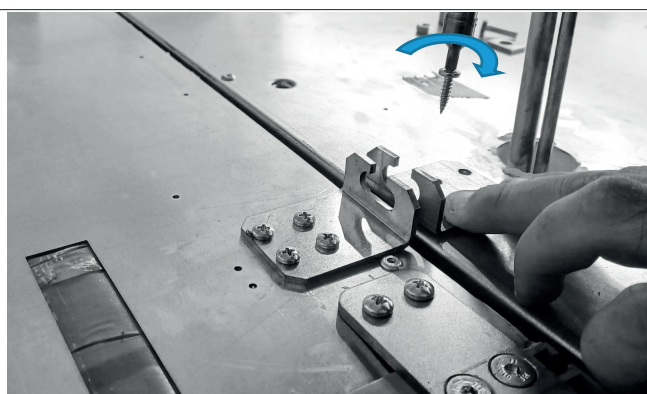
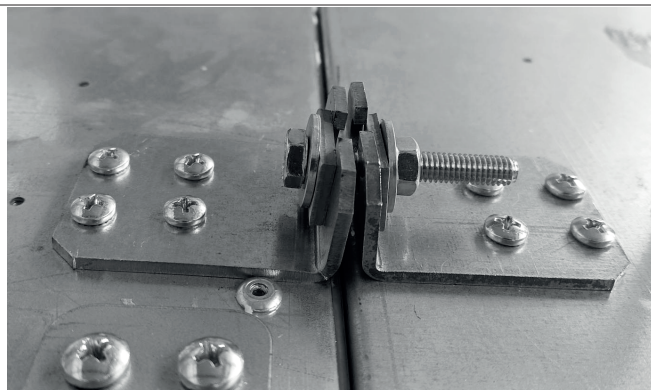

Fig. 50
Fig. 51
- Once the head cabinet has been fixed, then fix the side brackets on the linear cabinet with the self-tapping screws, corresponding to those of the head cabinet ("Fig. 50") adjust the furniture lengthwise and secure the 2 brackets with the screw, nut and washer supplied ("Fig. 51", "Pag. 32").